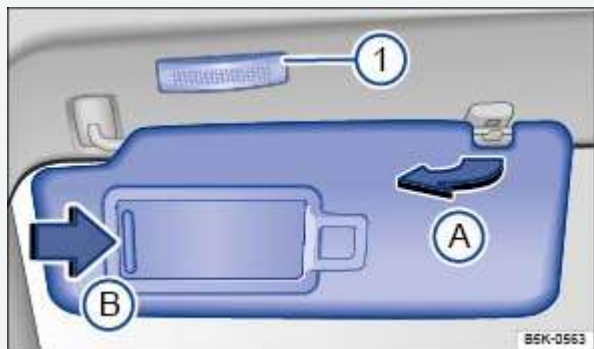

Fig. 88 In the headliner: Sun visor.
- Lift it out of the retaining clip ⇒ Fig. 88④ and swivel it over toward the door.
A vanity mirror is behind a cover in the sun visor. Your vehicle may also be equipped with a light ⇒ Fig. 88① that comes on when you slide the cover ③ open.